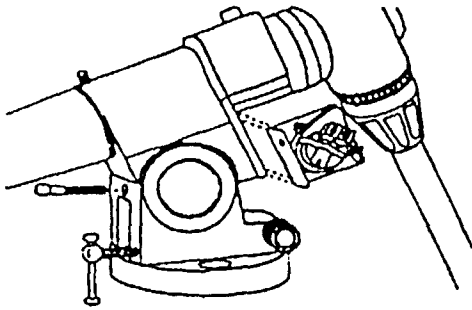

Figure 2
4. Slide the R.A. motor into the recessed area. The gear on the R.A. motor should be on the left side of the mount (see figure 2).